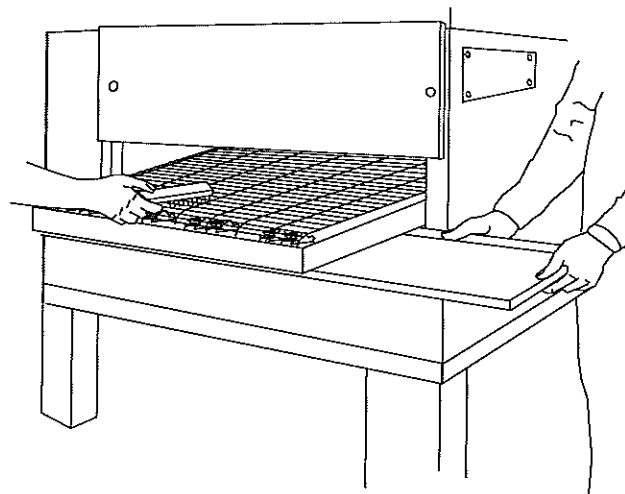

Figure 4-2. Conveyor Belt and
C. Conveyor Belt (Figure 4-2)
D. Crumb Pans (Figure 4-2)
When the oven is cool remove and clean the crumb pan at each end of the oven. Each crumb pan can be removed by sliding it out, as shown in Figure 4-2. Reinstall the crumb pans after cleaning.